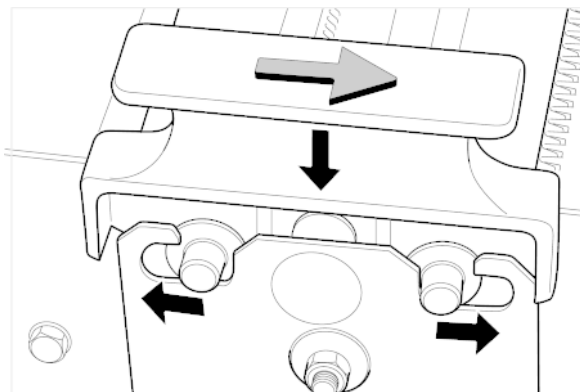

Fig. 4
- Check, before inserting film, that the upper rack is correctly positioned. Be careful that the attachment pins of the upper rack, are firmly clamped to the lower rack (fig. 4).